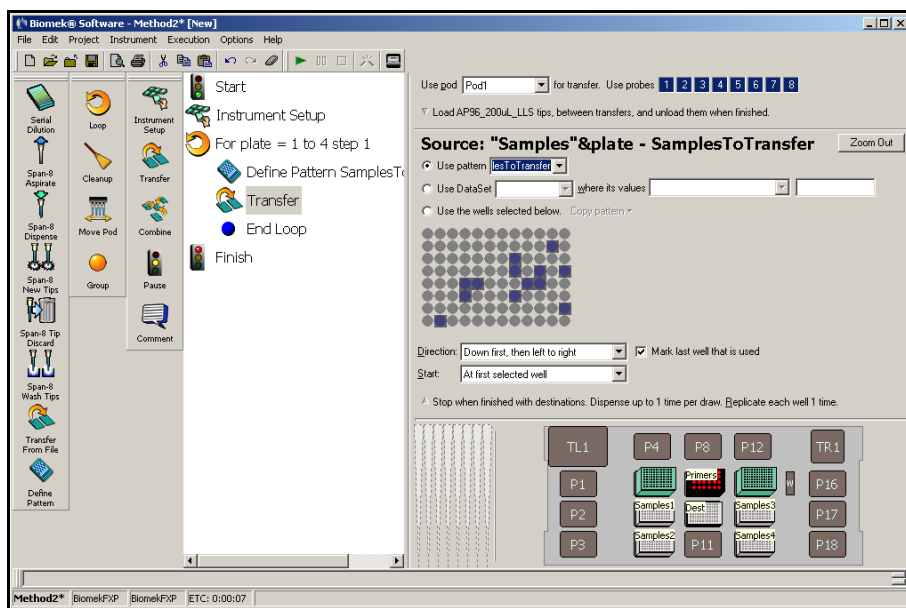

Figure 9-6. SamplesToTransfer pattern chosen
8. Select **Use Pattern** and choose the **SamplesToTransfer** pattern that was created earlier in the Define Pattern step. The main editor should look like Figure 9-6.